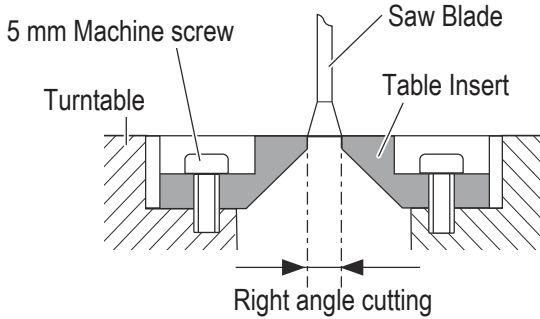

Fig. 11-a
(2) Left and right bevel angle cutting (**Fig. 11-b, Fig. 11-c**)